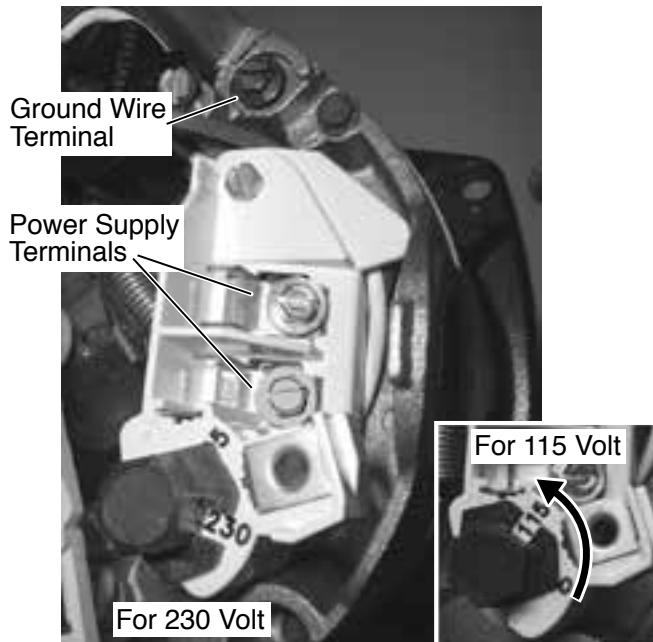

Figure 3 – 115/230V Dual Voltage Single Phase Wiring Diagram
Connection diagram for dual voltage, single-phase motors. Your dual-voltage motor's terminal board (under the motor end cover) will look like Figure 3. If your power supply is 115 volts, use a flat-bladed screwdriver or a nut driver to change the dial from 230 volts to 115 volts (see Figure 3). Connect power supply wires to L1 and L2.
Step 7. Connect current carrying conductors to terminals L1 and L2 under motor canopy. When replacing motor, check wiring diagram on motor nameplate against Figure 3. If the motor wiring diagram does not match either diagram in Figure 3, follow the diagram on the motor.
IMPORTANT: 115/230 Volt single phase models are shipped from factory with motor wired for 230 volts. If power supply is 115 volts, remove motor canopy and reconnect motor as shown in Figure 3. Do not try to run motor as received on 115 volt current.